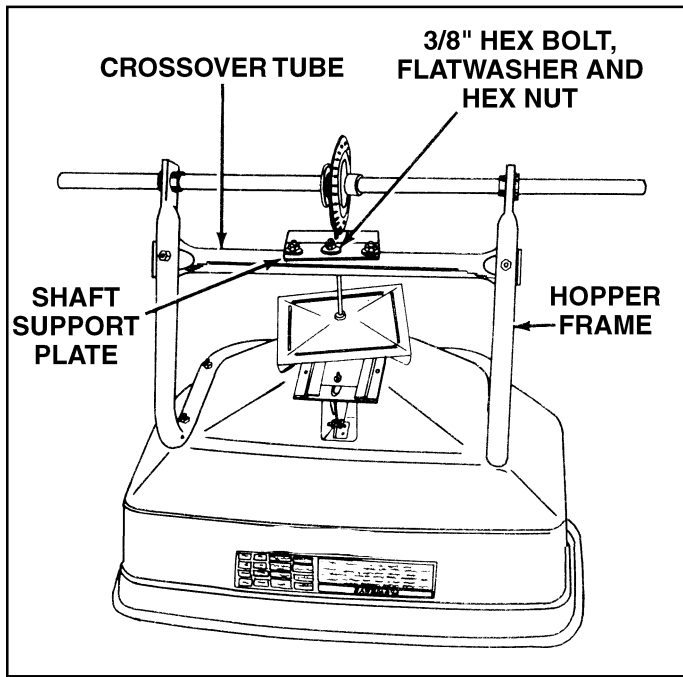
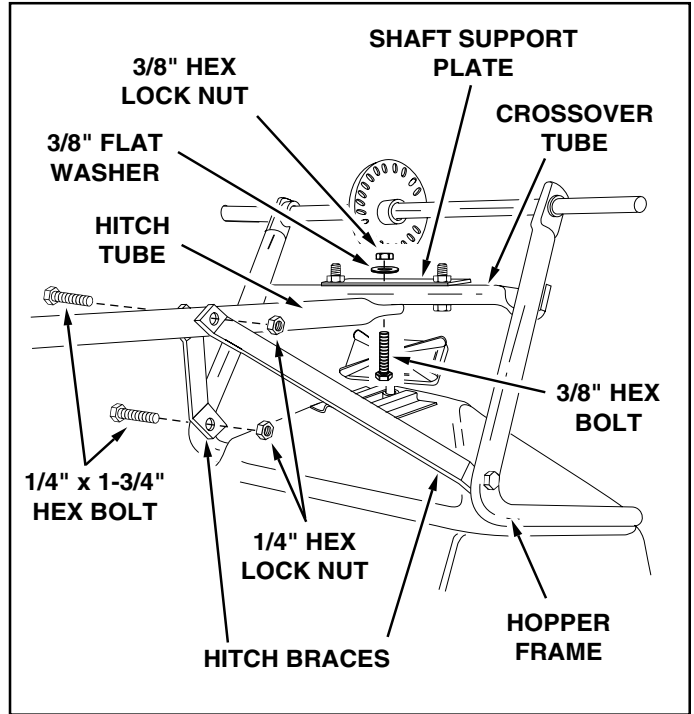

FIGURE 1
FIGURE 2
- 1. Turn the spreader upside down as shown in figure 1, so that it rests on the hopper.
- 2. Remove the 3/8" hex bolt, flat washer and hex lock nut from the center of the crossover tube and shaft support plate. See figure 1.
- 3. Assemble the two hitch braces to the inside of the hopper frame, one on each side, using two 1/4" x 1-3/4" hex bolts and two 1/4" hex lock nuts. See figure 2. **DO NOT TIGHTEN AT THIS TIME.**
- 4. Assemble short end of hitch tube to the crossover tube (on opposite side from shaft support plate). Fasten to the center hole in the crossover tube using the 3/8" hex bolt, flat washer and hex lock nut removed in figure 1. See figure 2. **DO NOT TIGHTEN AT THIS TIME.**
- 5. Align the holes in the ends of the two hitch braces with the nearest hole in the hitch tube. Fasten with a 1/4" x 1-3/4" hex bolt and a 1/4" hex lock nut. See figure 2. **DO NOT TIGHTEN AT THIS TIME.**
- 6. **Tighten all** hex nuts and bolts, following the same sequence as assembled in figures 1 and 2. **DO NOT COLLAPSE TUBE WHEN TIGHTENING.**